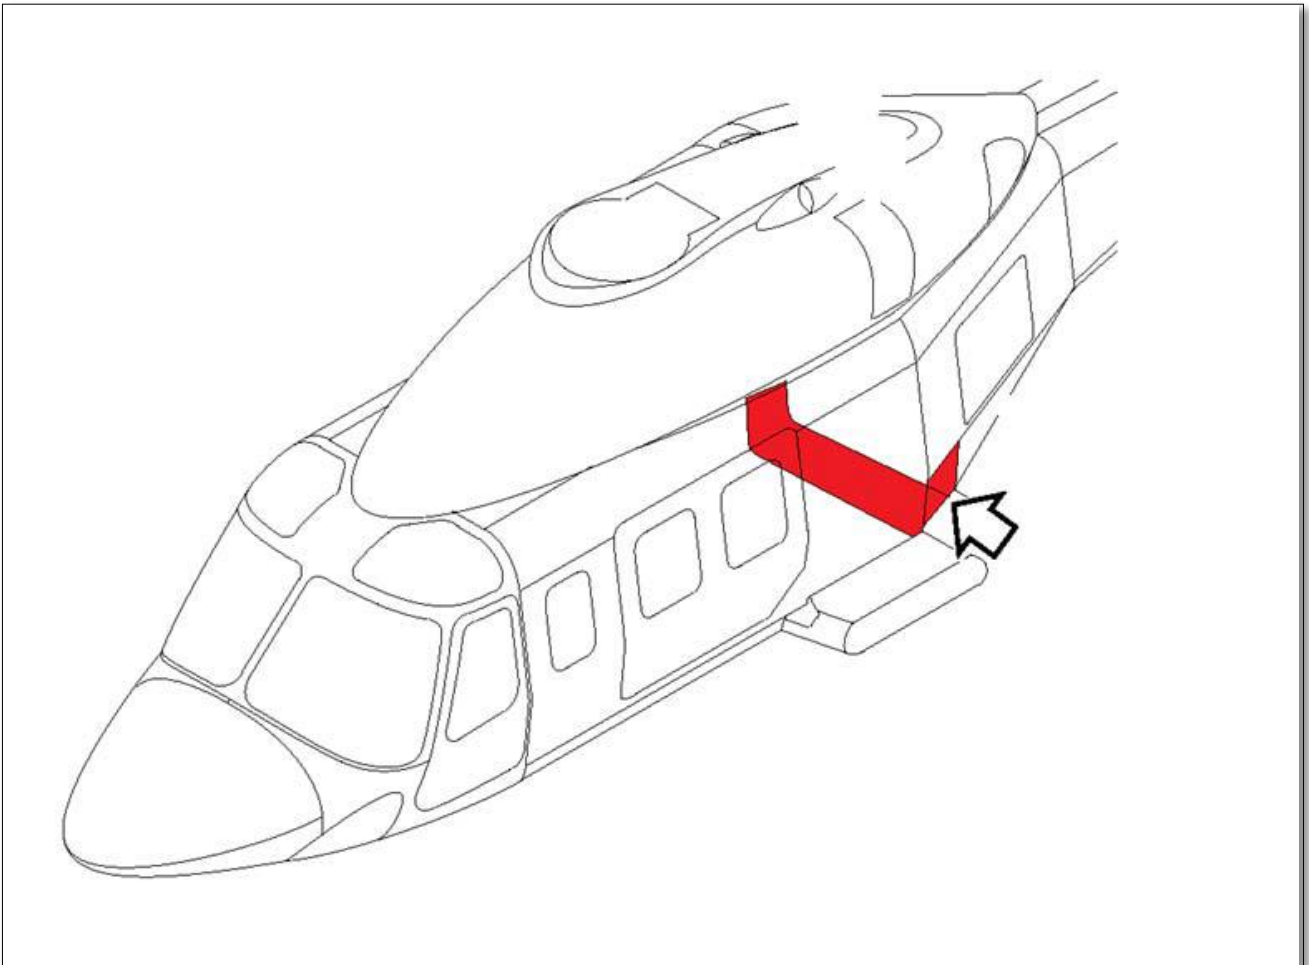

Figure 1 – Work Area – Forward Lower Panel Assy
2. Get access to the Work Area (Figure 1):